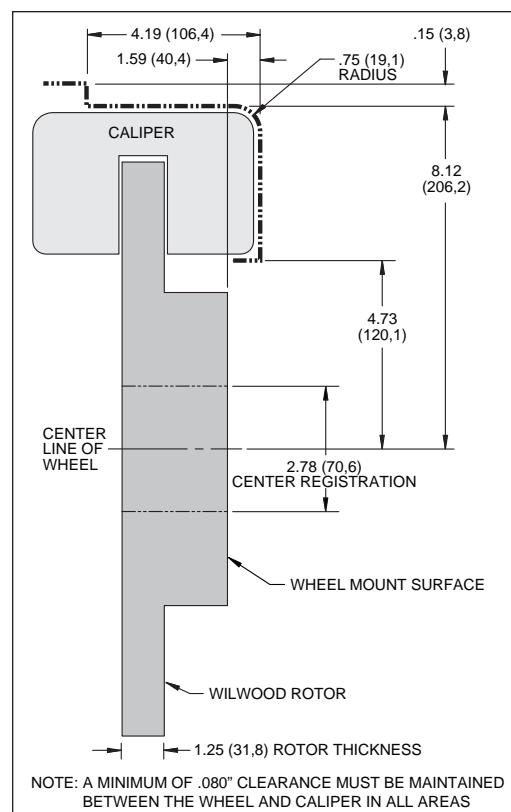

Figure 2. Wheel Clearance Diagram
- This kit requires a minimum of 18" or larger wheels and is unlikely to fit OEM factory wheels without wheel spacers. Aftermarket wheels are more likely to fit, but may require a wheel spacer. Please refer to wheel clearance diagram (Figure 2, page 3) for the specific sizing requirements to determine compatibility. Parts that have been installed may not be returned or exchanged.
• Verify your wheel clearance using Figure 2.